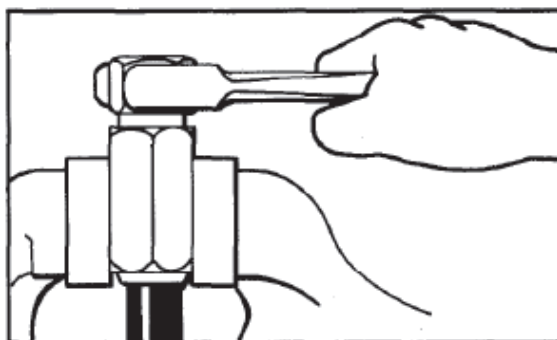

Figure 1 Removing the Coupling Insert
- d. Clamp the ferrule in a vice (Figure 1) and screw the insert from the hose in an anticlockwise direction.